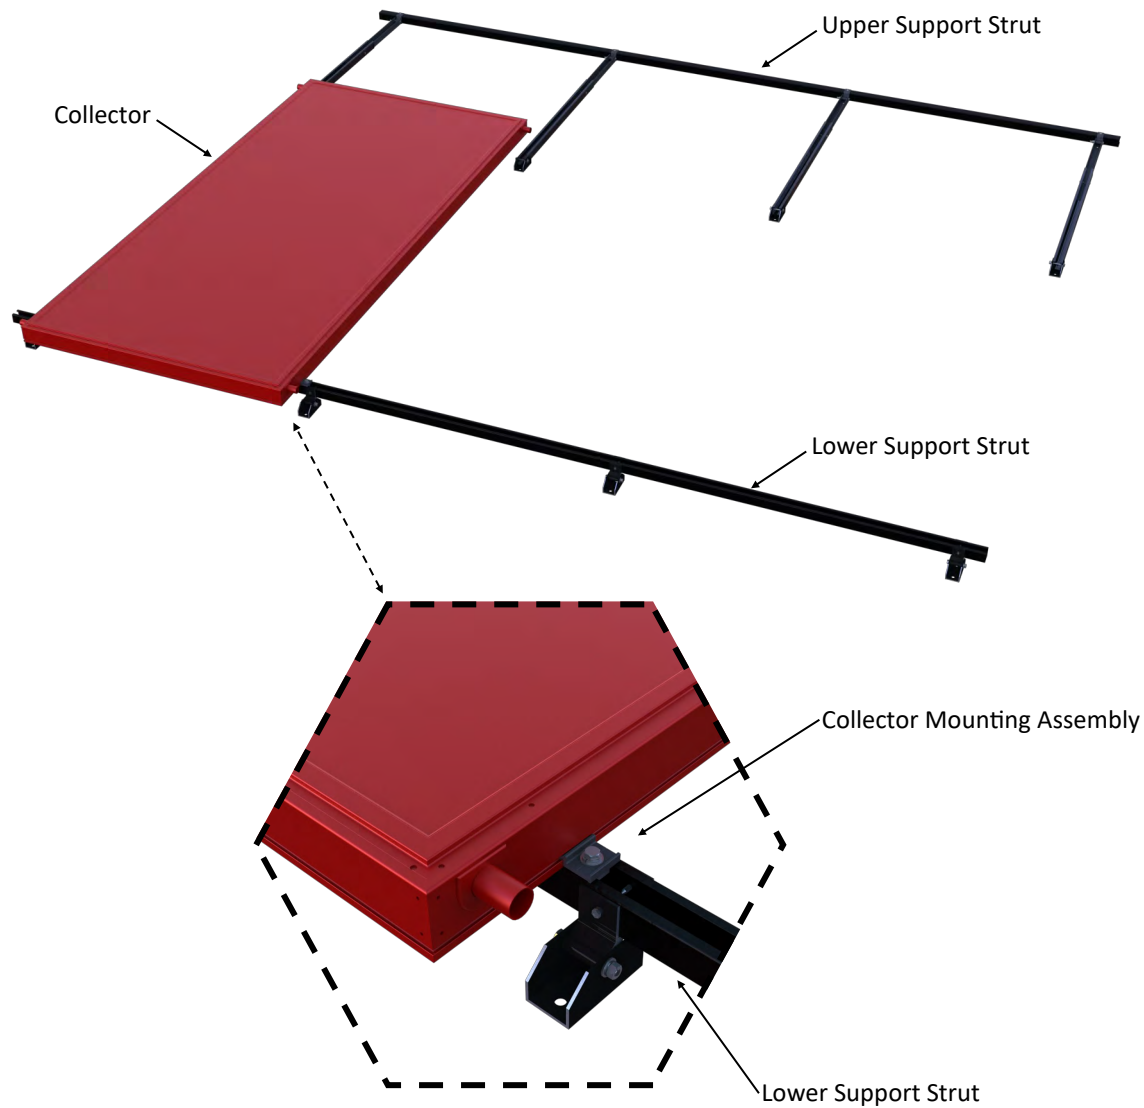

Figure 5
1. Place the first Collector face up on the Lower Support Strut with the lower end of the Collector overhung 5" beyond the Lower Support Strut. As shown in *Figure 5*.
3. Install two (2) C-SSN Collector Mounting Assemblies on the Lower Support Strut and torque to 19 ft*lbs (26 N*m).